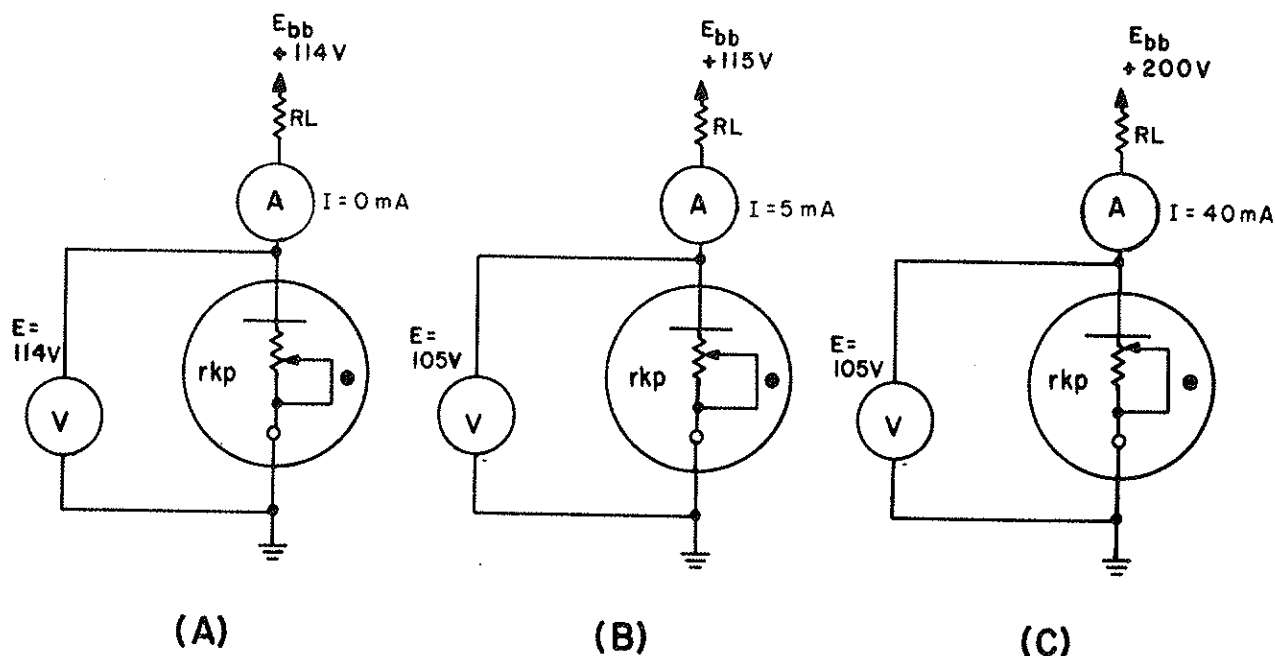

Figure 2-16.—Cold-cathode tube operation.
Examine figure 2-16. Here you see a cold-cathode tube connected to a variable voltage source. The variable resistor r_{kp} does not exist as a physical component, but is used to represent the resistance between the cathode and plate. Most cold-cathode tubes have a firing point (ionizing voltage) at about 115 volts. Thus, the tube in view (A) of the figure is below the firing point. Because the tube lacks thermionic emission capabilities, no current will flow and the tube will have a resistance (r_{kp}) near infinity. The potential difference between the plate and ground under these conditions will be equal to the source (E_{bb}) voltage, as shown on the voltmeter.